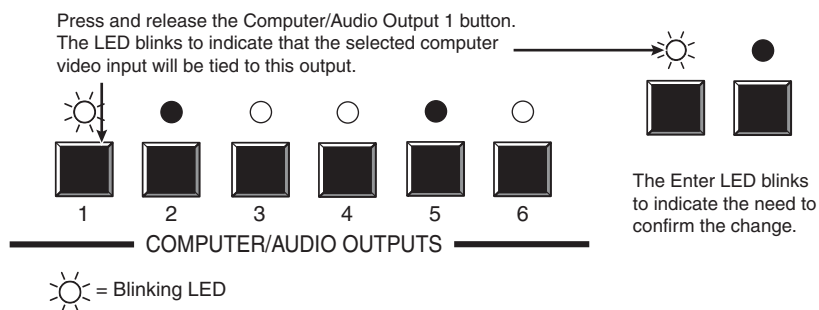

Figure 3-12 — Select the output
4. Press and release the output 1 button (figure 3-12).